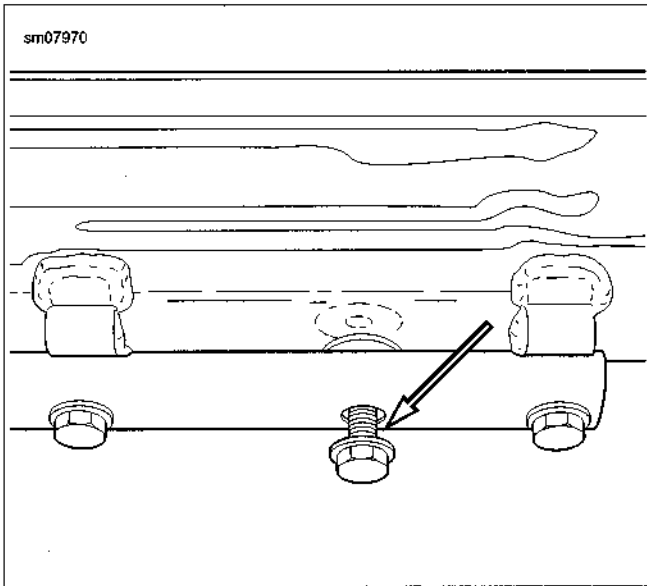

Figure 4-38. Bolt 1/2 Way Installed
3. See Figure 4-38. Thread front mounting bracket fastener 1/2 way into bracket.